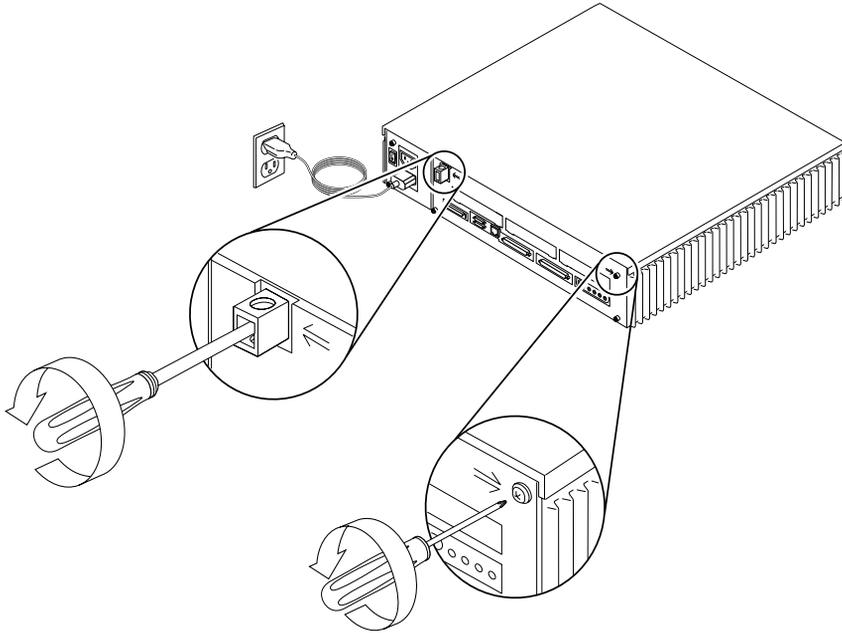

FIGURE 7-1 Removing the Rear Panel Cover Screws
2. Loosen the captive Phillips screw in the upper-right corner of the rear panel (see FIGURE 7-1).
3. Loosen and remove the Phillips screw that secures the lock block to the cover. Remove the lock block and put it aside (see FIGURE 7-1).